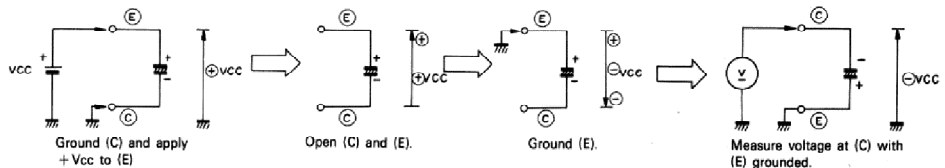

Fig. 5 Operation of C61 and C62
Since Q22 turns on, the voltage at (E) is lowered to about 2V by the voltage drop across R84. Since the potential difference between (C) and (E) is Vcc, the voltage at (C) is $(2 - Vcc) \div -Vcc$. (Refer to Fig. 5.)